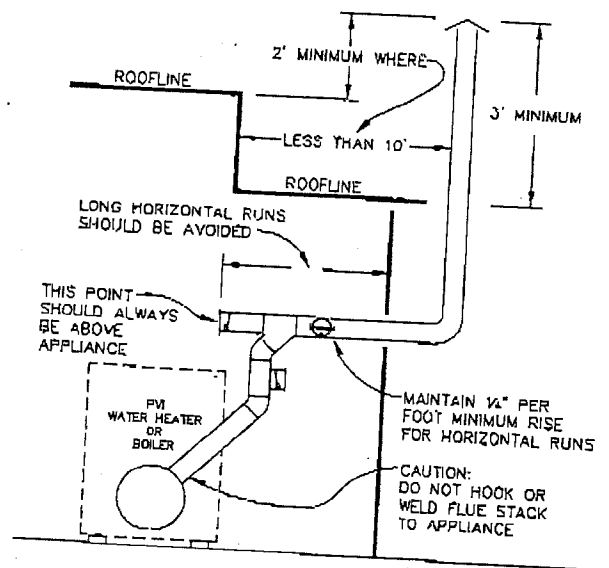

FIGURE 3
- Draft regulators (barometric dampers) may be incorporated in the vent for gas, oil, and gas/oil fan assisted products and are recommended. A single swing barometric damper should be used for oil-fired products. The double swing type should be used on gas or gas/oil fired products. Under normal venting conditions, the draft regulator should be the same size as the flue outlet of the product, never smaller. Draft regulators must be installed and adjusted in accordance with the manufacturer's instructions (see Figure 3).